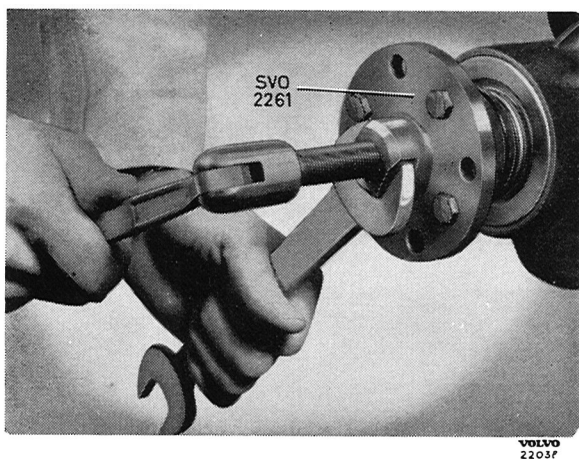

Fig. 4-149. Flange removal
Pull off the flange with puller 2261, see Fig. 4-149.
7. Turn the rear axle and drain the oil. Remove the nut for the flange. Use tool 2837 resp. 2854 for this purpose. Pull off the flange with puller 2261, see Fig. 4-149. Press out the pinion.